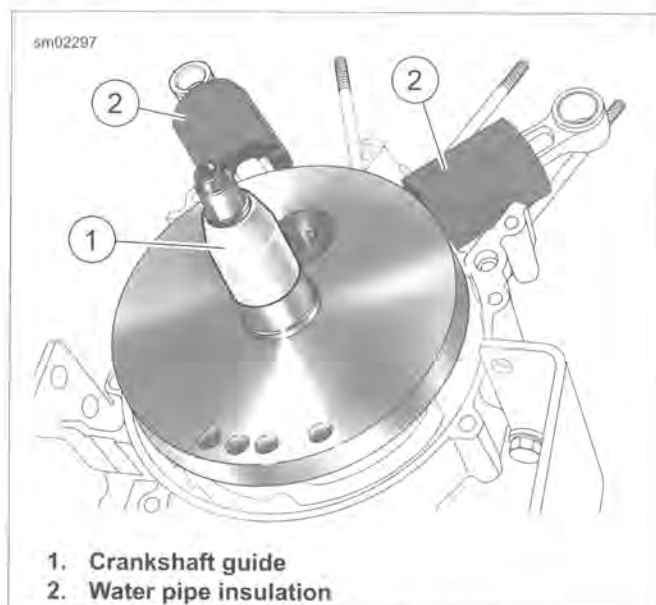

Figure 3-137. Crankshaft Guide
7. See Figure 3-137. Place CRANKSHAFT GUIDE (Part No. HD-42326-B) over end of crankshaft until it contacts shoulder on shaft.